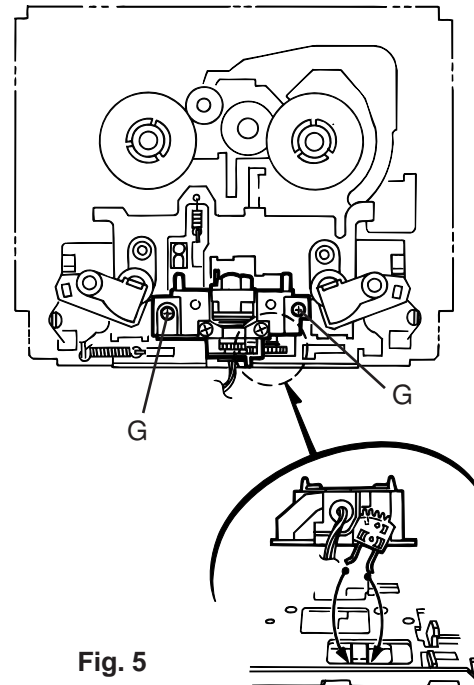

Fig. 5
■Detaching the mechanism (Fig. 5 to 11)